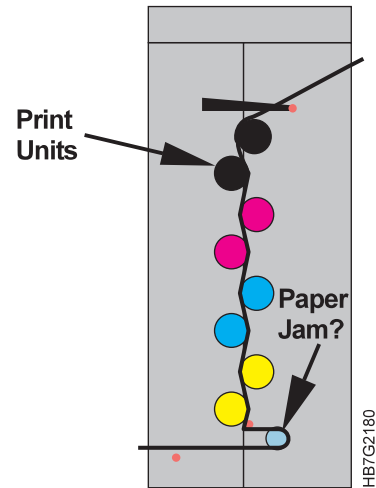

Figure 269. Unlatching Bottom of X and Y Tower
- 5 Unlatch the bottom of the print tower, as shown in Figure 269, by pulling out on the latch located at the bottom center between the X and Y towers. Do this on both sides of the machine.